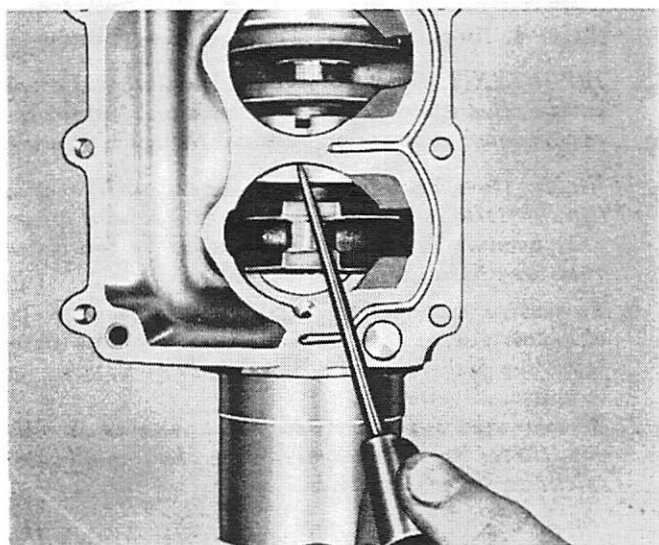

Figure 6. Scribing Center Main Bearing
2. Before removing crankshaft and center main assembly from crankcase, use a sharp scribe to mark center main along center bridge radius of crankcase and a vertical scribe mark to aid in realigning. (Figure 6) This will allow faster and more accurate reassembly.